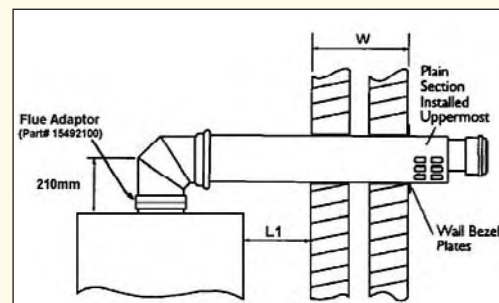

Fig 11.4f
- 11) Lubricate the male ends of the concentric bend with silicone grease. Locate concentric tubes into bend and gently push fully home. Ensure that the plain section of the external part of the air inlet tube is located uppermost. See fig 11.4f.
- 12) Fix external wall bezel plate with fixings provided (fig 11.4f).